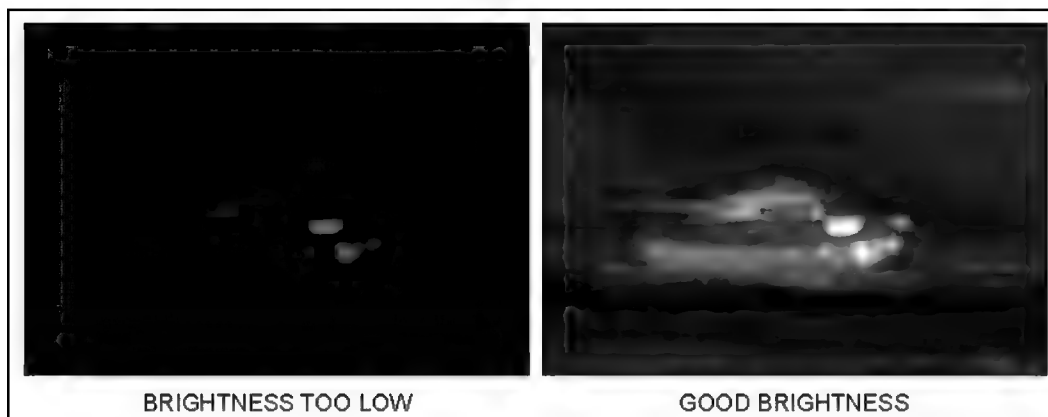

Figure E-24. Low versus good contrast adjustments.
- Brightness too low (Figure E-24). When brightness is too low, almost all objects appear black, a few appear as shades of green, and none appear bright green.